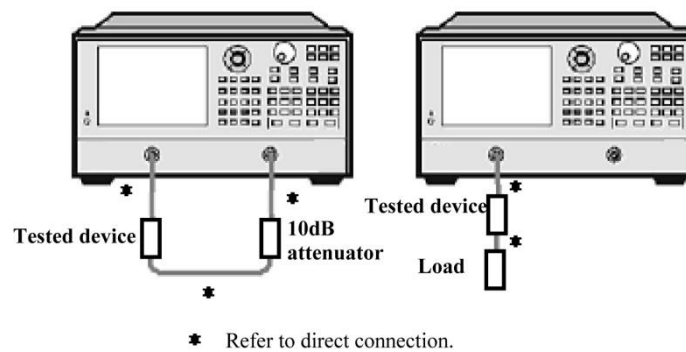

Fig. 8.10 Connection in Impedance Measurement
- 3) Connector shown in Fig. 8.10 for S_{11} or S_{22} measurement.
- c) Move the cursor along the track to read the conductance and susceptance component of the complex admittance of the data point, in siemens (S).